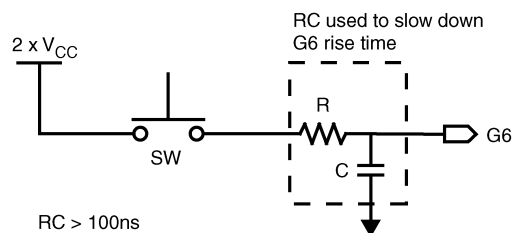

Figure 5-8. Circuit Diagram for Implementing the $2 \times V_{CC}$
4. After V_{CC} is valid and stable, connect a voltage between $2 \times V_{CC}$ and $V_{CC}+7V$ to the G6 pin. Ensure that the rise time of the high voltage on G6 is slower than the minimum in the Electrical Specifications. Figure 5-8 shows a possible circuit diagram for implementing the $2 \times V_{CC}$. Be aware of the typical input current on the G6 pin when the high voltage is applied. The resistor used in the RC network, and the high voltage used, should be chosen to keep the high voltage at the G6 pin between $2 \times V_{CC}$ and $V_{CC}+7V$.